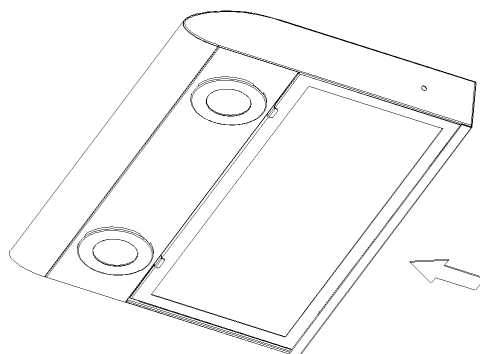

Figure 3
4. Reinstall the aluminum filter back (see figure 3).